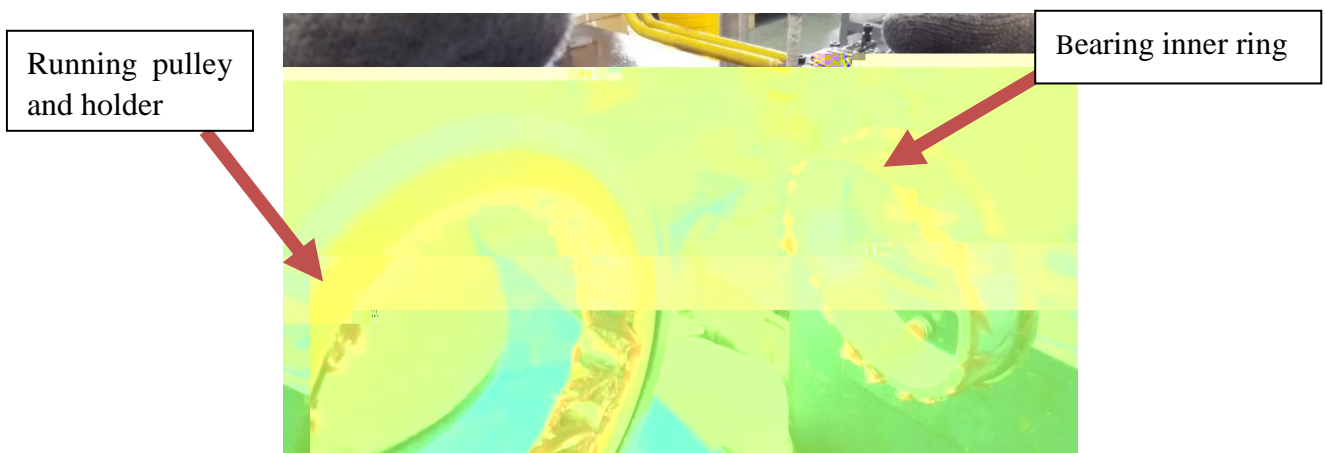

Fig.10.3
1.4.4.3.1.2 Remove the bearing inner ring from the rotor assembly by hand, outer ring of bearing and running pulley are contacted with brake wheel, the separation of bearing inner ring and outer ring is as shown in figure 10.3.